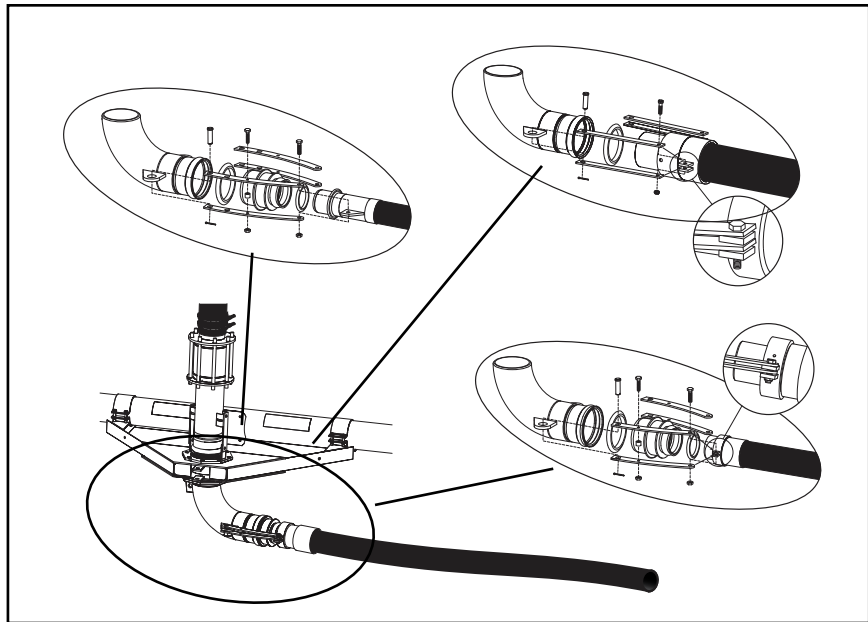

Figure 40-1 Swivel Inlet Hose Couplers
- Hose coupler design varies depending on the type and size of the hose. See figure 40-1 and 40-2.
- Swivel inlet hose couplers are secured to the inlet with pull straps. See figure 40-1.